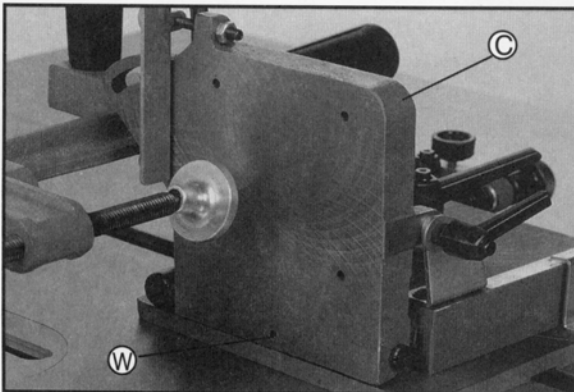

FIGURE 6
3. With the vertical work support plate. (C). figure 6 adjusted at 90 degrees to the table tighten set screw (w) until it bottoms.